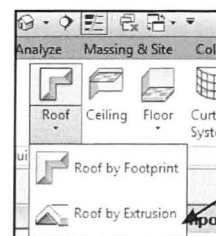

Fig. 09.114. Vælg *Roof By Extrusion*.
- Klik *Architecture - Roof By Extrusion* i dropdown menuen (Fig. 09.114).